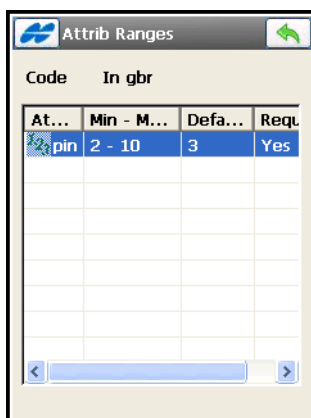

Figure 6-9. Attribute Range
- **Properties** – opens the *Attrib Ranges* screen (Figure 6-9 on page 6-11) to view the ranges for the attributes.
On the **Attribute Ranges** screen (Figure 6-9), you can view the ranges for the attributes.